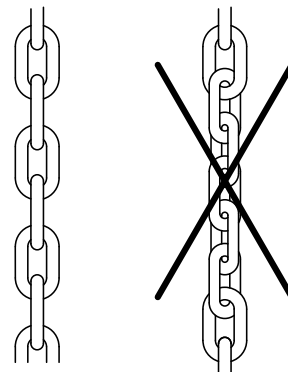

Fig. 2: Variation of the hand chain length
## Variation of the hand chain length (Fig. 2)
- When changing the chain length, care should be taken that the chain is cross - assembled (Fig. 2).